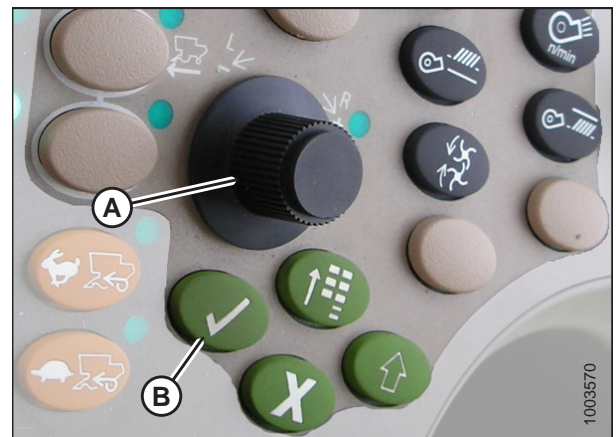

Figure 3.334: John Deere Combine Control Console
7. Select HEADER in box (A) by scrolling down to the box using the scroll knob, and then pressing the check mark button (knob and button are shown in Figure 3.334, page 209).
8. Scroll down to the lower right icon that resembles an arrow in a diamond (B) and press the check mark button to select it.